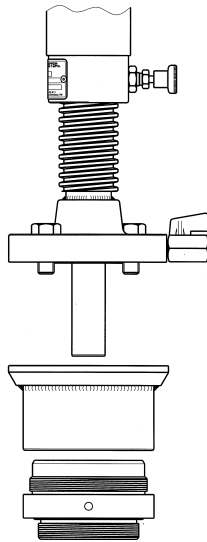

Figure 14
- Choose the threaded adapter that matches the thread of the saddle and screw it into the installed dome: adapters of 2", 2½" and 3". See *Figure 14*.